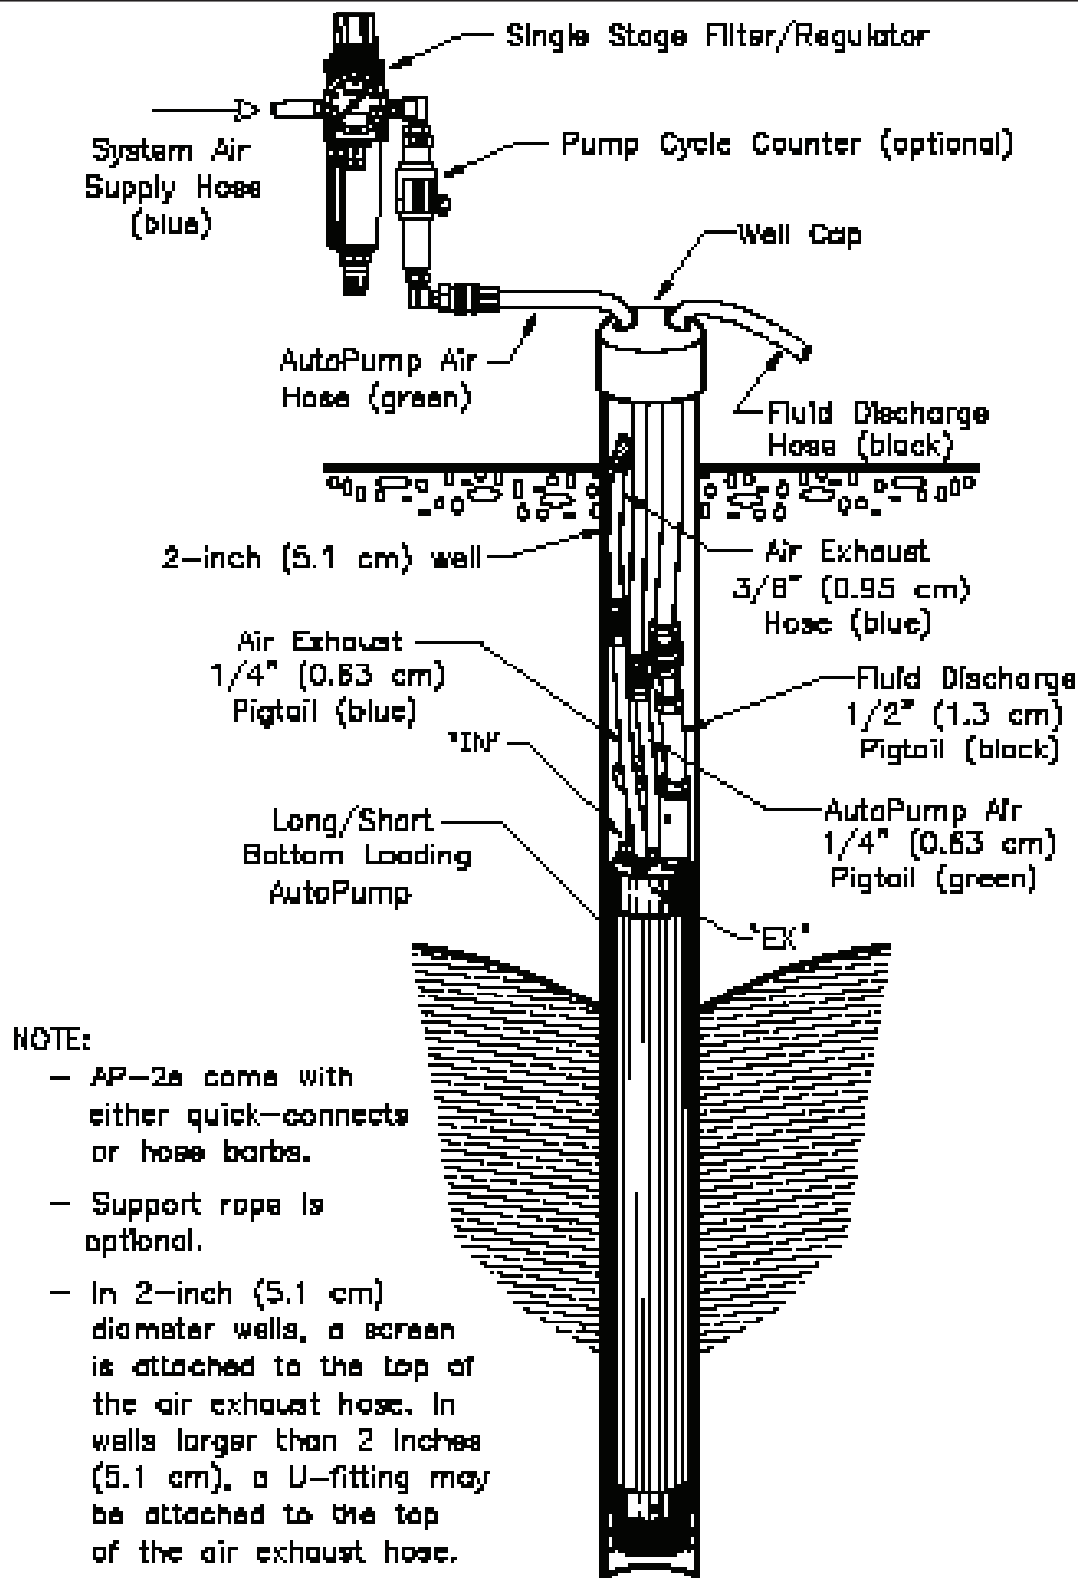
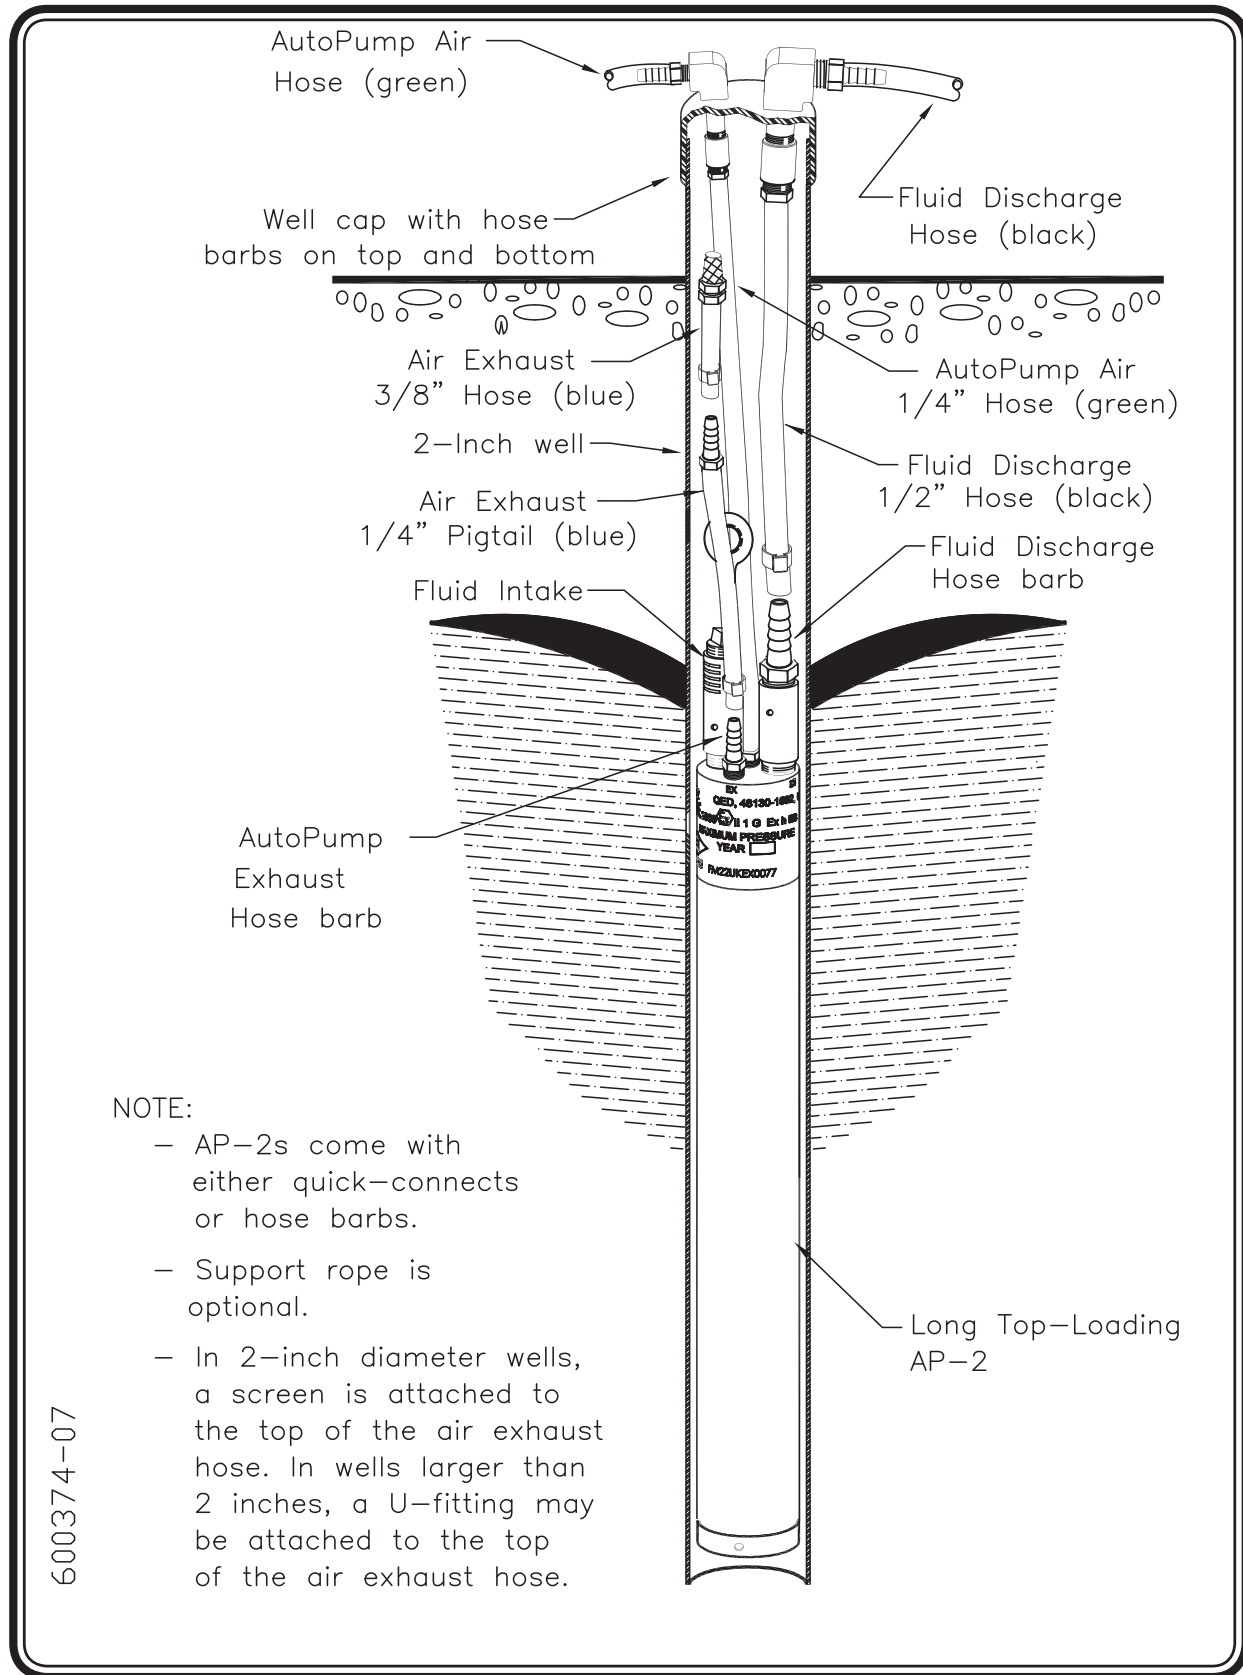

Figure 11 - AP-2 Assembly: Well Cap with Holes
Figure 12 - AP-2 Assembly: Well Cap with Hose Barbs
(See **Figure 11** and **Figure 12**)
(See Figure 11 and Figure 12)
- STEP 2 -** If a well cap is supplied, install it on the hoses. **(See Figure 11 for well cap with holes; see Figure 12 for well cap with hose barbs)**